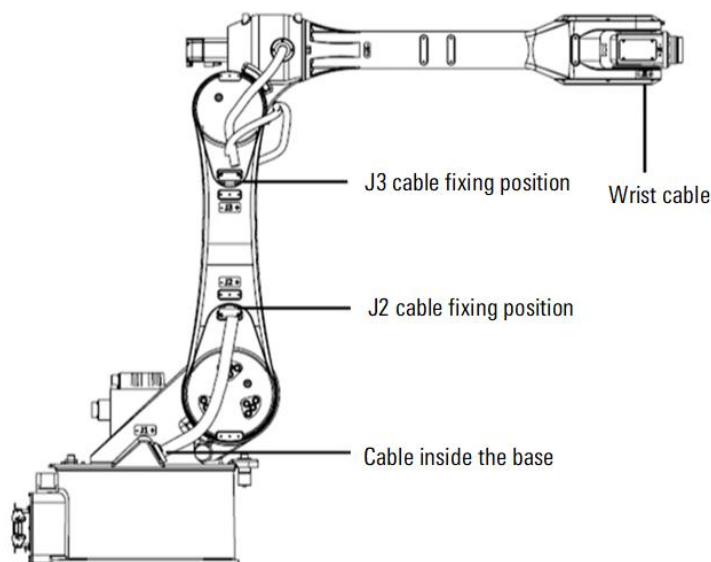

Figure 12-1 Layout for cables of manipulator
To ensure the long-term operation of robot, the manipulator cable shall be checked every 1,920 h or 6 months (whichever comes first). Layout for Cables of manipulator as shown in Figure 12-1.
- Step8. The cable in the base to keep the shape "U" type like the Figure 12-1.